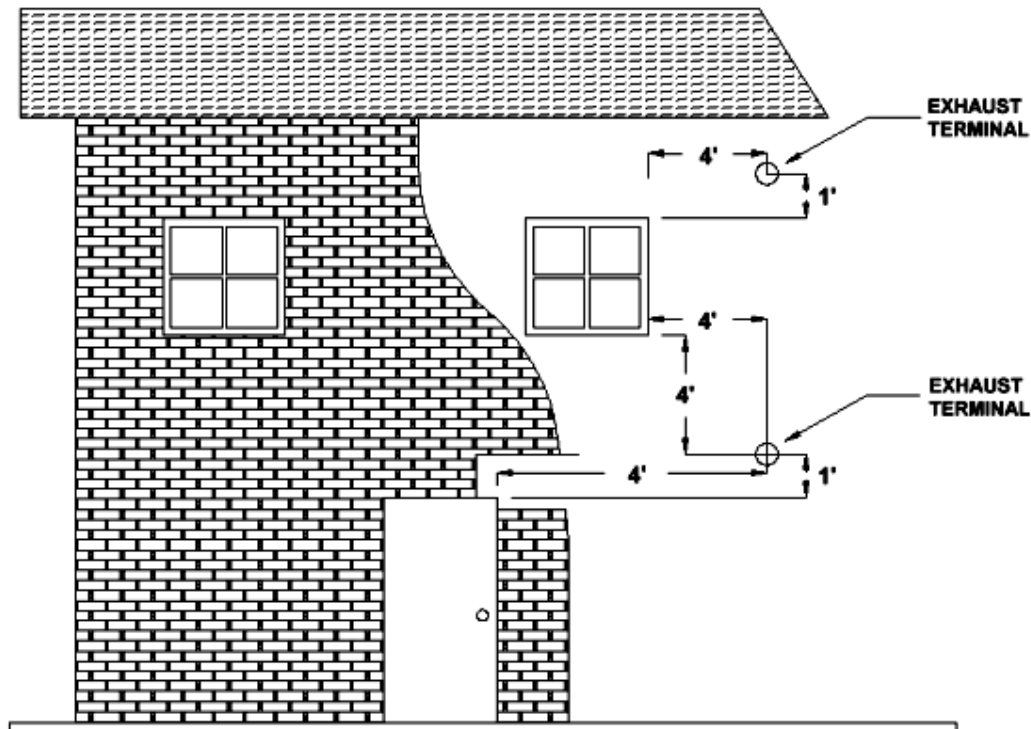

FIGURE 4a
**The type of installation must first be considered before determining the exact location of the venting termination in relationship to doors, window, cavities or air vents. See figures 4a and 4b below.**